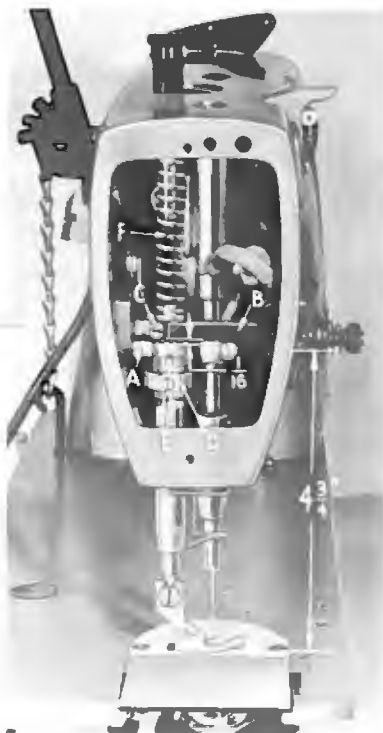

Fig. 16
The presser bar connection (A, Fig. 16) should be set so that it is about $\frac{1}{16}$ inch below the presser bar guide (B). This is accomplished by tipping the machine back against the rest pin, loosening the lock nut (A, Fig. 15), and relocating the stop screw (B) on the lifter lever bell crank (C). By turning the stop screw to the right or left, the proper setting of the presser bar connection is accomplished. Tighten the lock nut (A) to lock the stop screw in place.
When locating the presser bar guide (B, Fig. 16), the presser foot must rest directly against the throat plate with the feed dog in its lowest position. The guide is set properly when there is a $4 \frac{3}{4}$ inch space between the thread take-up wire and the top of the throat plate (Fig. 16)
The tension release should be set so that it will not release when sewing over seams or when the presser foot is raised for back tacking. The adjustment of the tension release cam (D, Fig. 16) and the in and out position of the tension assembly are required for proper operation.
The tension release cam (D, Fig. 16) should now be positioned by loosening set screw (E, Fig. 16) and then raising or lowering the cam to suit the sewing conditions, the average release point being between $1/4$ to $5/16$ inch of presser foot lift above the throat plate. Tighten tension release cam set screw securely.